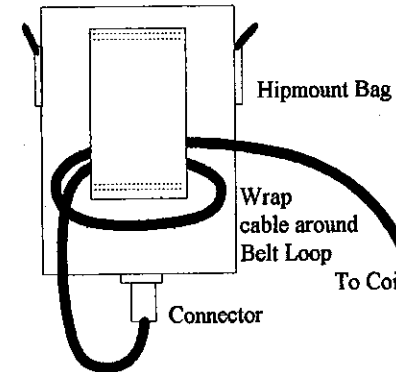

Figure 2
- E. To prevent strain being placed on the cable and connector, wrap one turn of cable through the belt strap (as seen in figure 2) and then plug the connector into the control box ensuring to **hand tighten** the locking nut.